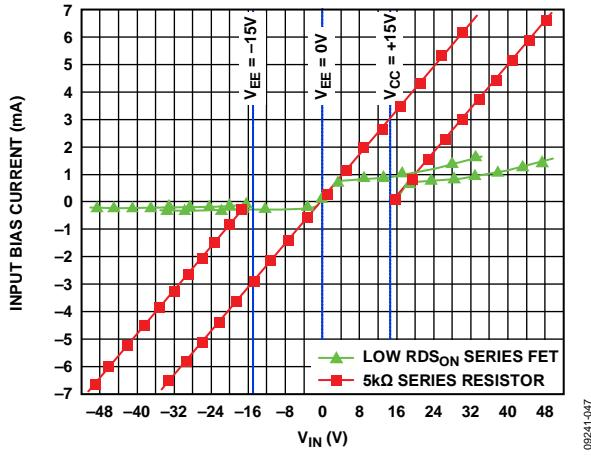

Figure 55. Input Current Limiting Capability
Figure 55 shows the input current limiting capability of the ADA4096-2 (green curves) compared to using a 5 k $\Omega$  series resistor (red curves). The graph plots Input Bias Current (mA) against Input Voltage ( $V_{IN}$ ) (V).
Figure 55 was generated with the ADA4096-2 in a buffer configuration with the supplies connected to GND (or  $\pm 15$  V) and the positive input swept until it exceeds the supplies by 32 V. In general, input current is limited to 1 mA during positive overvoltage conditions and 200  $\mu$ A during negative undervoltage conditions. For example, at an overvoltage of 20 V, the ADA4096-2 input current is limited to 1 mA, providing a current-limit equivalent to a series 20 k $\Omega$  resistor. Figure 55 also shows that the current limiting circuitry is active whether the amplifier is powered or not.
Note that Figure 55 represents input protection under abnormal conditions only. The correct amplifier operation input voltage range (IVR) is specified in Table 2 to Table 4.